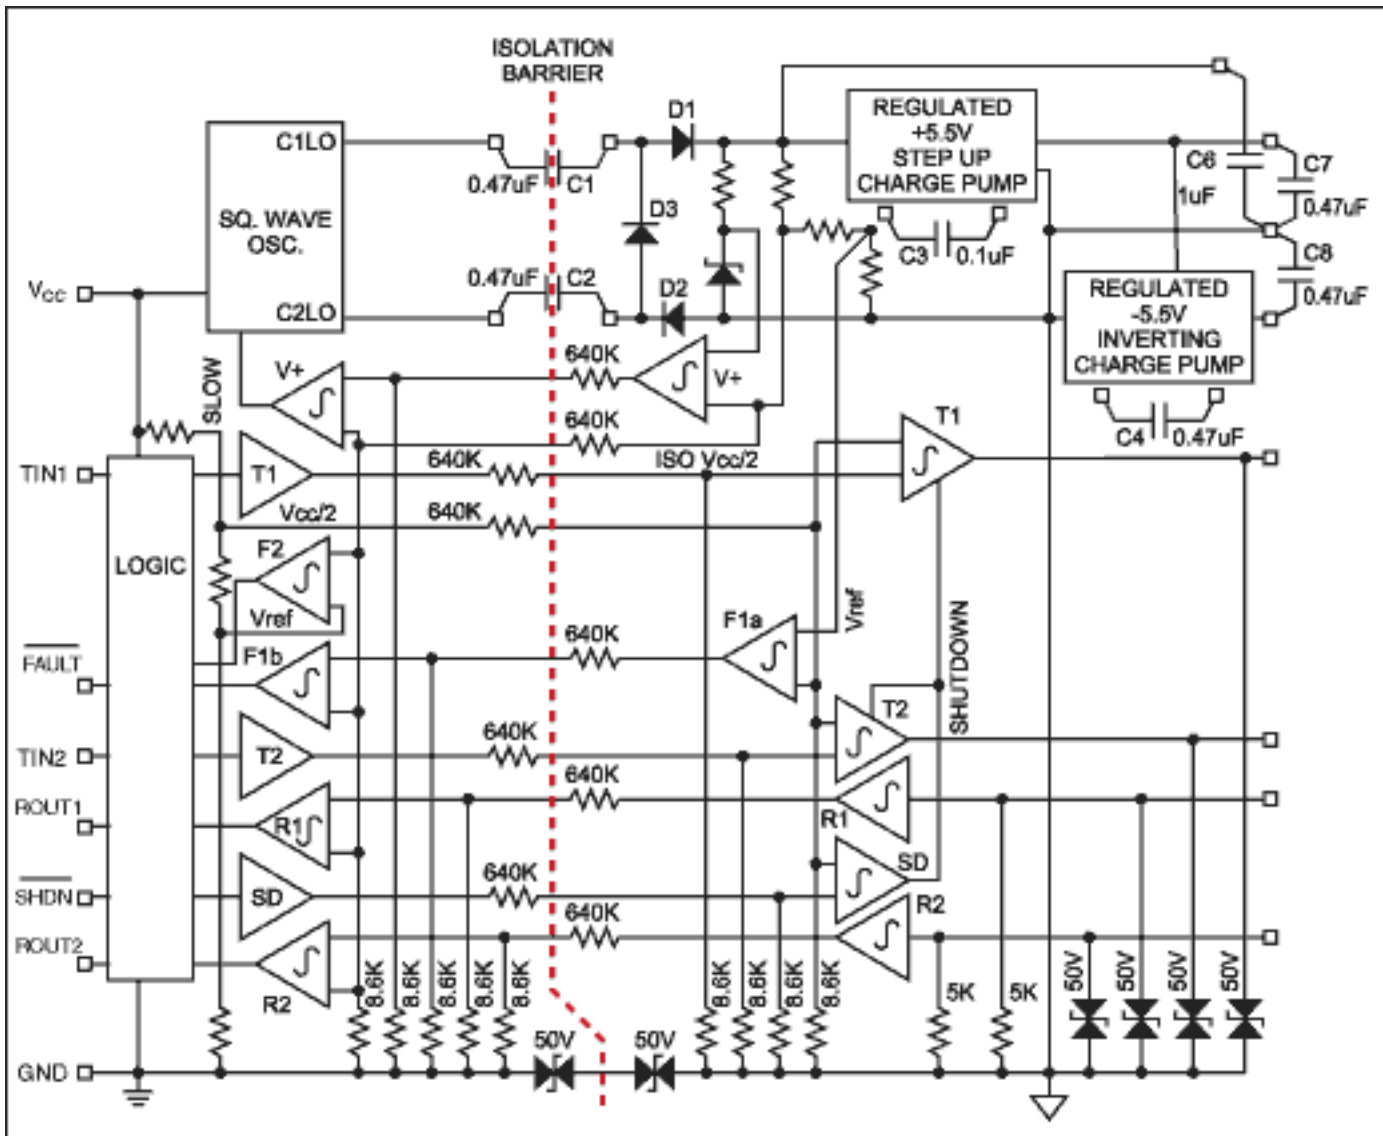
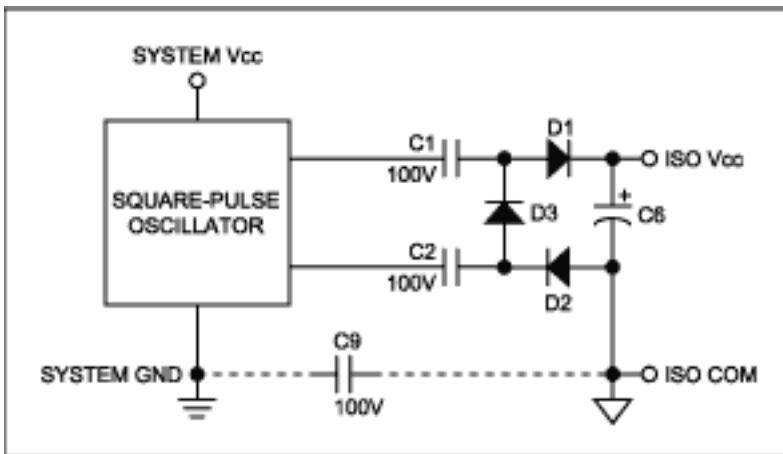
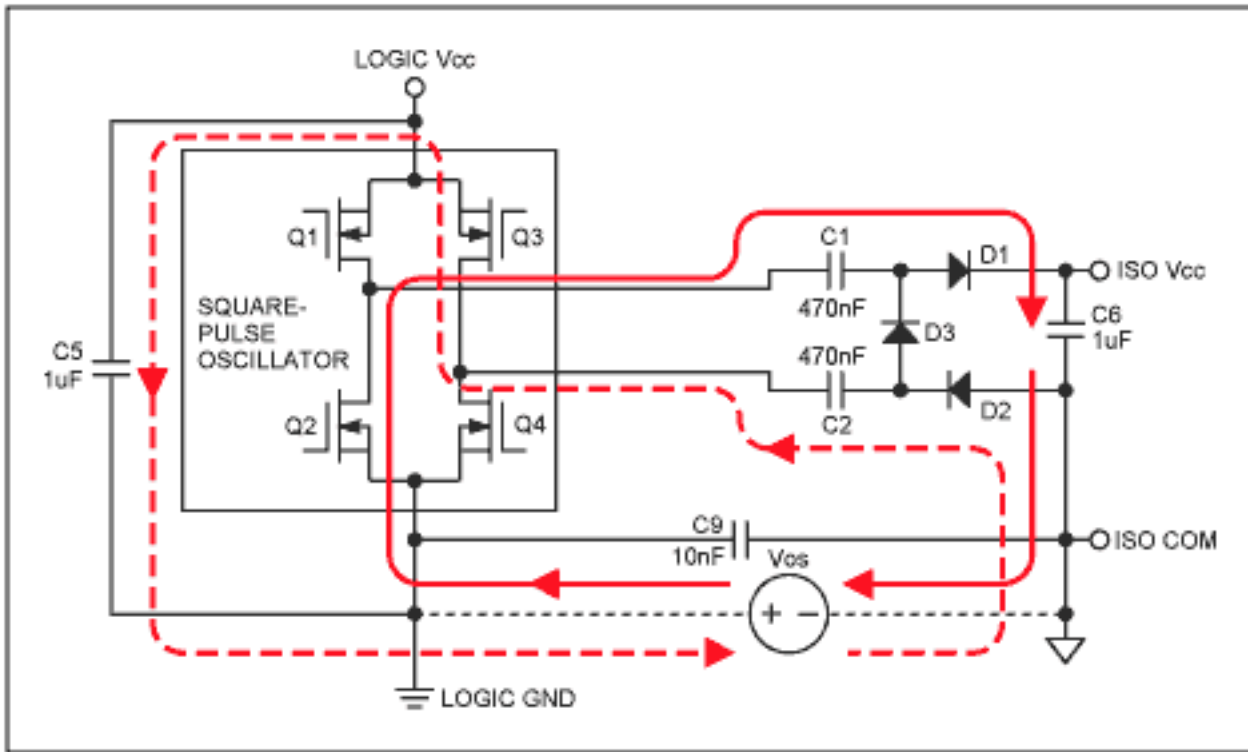

Figure 1. MAX3250 functional block diagram.
Figure 4. Capacitor-coupled isolated supply.
Figure 7. Equivalent charge transfer circuit showing possible reverse pumping paths for V_{OS} .
The MAX3250 provides a $\pm 50V$ isolated data interface while, in the same IC package, providing isolated power for the line-side transceiver circuits from a single +3 to +5.5V system power source. The detailed functional diagram in **Figure 1** allows a clear visualization of the isolation, power-transfer, and protection circuits. External filter, charge-pump, and power-transfer capacitors are utilized.
Note that there is a resistance between ISO COM and system GND (see Figure 1) due to the existence of nine sets of isolation resistors. The approximate parallel resistance of these nine attenuators is 72kΩ.
Unless a separate isolated power supply is available to operate the isolated RS-232 transceiver, power must be transmitted from the system or non-isolated side to the line or isolated-side circuits without destroying the required isolation. It is a practical matter to use capacitive voltage transfer across the isolation barrier when the planned isolation is no more than 50-100V. Higher voltages can be isolated; but the required capacitors become somewhat large at, say, 500V. Capacitive power transfer can be accomplished by differentially driving a pair of capacitors from a square-wave oscillator on the system side as indicated in **Figure 4**. The external capacitors feed three diodes and a filter capacitor on the isolated side to produce an isolated DC output. The third diode is present to allow recharging/discharging of the coupling capacitors on alternate half-cycles of the oscillator signal. The coupling-capacitor voltage ratings are selected to be greater than the required line-side isolation or offset voltage.
The isolated-supply power-transfer system operates somewhat like the well-known charge pump. The square-wave oscillator reverses its output polarity (0 or +5V) on alternate half cycles of operation. Its output is always a square wave (50% duty cycle), but (in the MAX3250) its output resistance increases on command (via a return feedback path visible in Figure 1) when ISO V_{CC} reaches its design voltage. Thus, it operates to provide either normal or reduced power transfer to the isolated supply. As the line-side load draws down the voltage on C6, the feed-back signal will again cause the oscillator to more effectively replenish the charge on C6. The output voltage is thus under active regulation, with some ripple on the output at a ripple frequency depending upon the actual load. A Zener diode on the output side acts as a voltage reference against which a fraction of the output is compared to drive the control signal that is sent back across the isolation barrier to the oscillator. The charge pump injects noise currents into the ISO COM terminal to create a noise voltage on ISO COM whenever ISO COM is not connected to system GND. Hence, ISO COM should be bypassed to system GND with a 10nF capacitor (C9 in Figure 4). There are two additional regulating charge pumps driven by ISO V_{CC} to create regulated $\pm 5.5V$ supplies for the RS-232 drivers and receivers.
Control and Data Transfer Across the Isolation Barrier (refer to Figure 1)
1. The charge-pump isolation-voltage limit is set by the breakdown rating of capacitors C1, C2, and C9 (see Figure 4).
The maximum applied offset voltage is dependent on frequency and the value of the power coupling capacitors (C1 and C2 in Figures 1 and 4). The dependence on C1 and C2 is due to a reverse pumping action caused by high levels of ground offset voltage. This means that there are different limits to V_{OS} when the circuit is powered by 3.3V or 5V supplies because C1 and C2 must be 470nF for 3.3V supply whereas 47nF is allowed for a 5V supply.
The isolated supply of Figure 4 is redrawn in **Figure 7** to include details of the square-pulse oscillator. Reverse charging paths are shown for V_{OS} -generated currents. When the V_{OS} polarity is as shown, a current, indicated by the solid line, will flow through Q2, C1, and D1 to charge C6. When the polarity is reversed, a current, indicated by the dashed line, will flow through D2, C2, and Q3 to charge logic-bypass capacitor C5.
A feature of the MAX3250 is a fault-condition flag output indicating when the device's isolation limit has been exceeded. The operation may be understood by reviewing the block schematic of Figure 1. Comparators on each side of the isolation barrier, F1a and F2, each compare a locally-generated reference voltage with the attenuated $V_{CC}/2$ reference from the opposite side of the isolation barrier. References are chosen such that the attenuated equivalent of a 55V isolation voltage is recognized. One comparator recognizes a positive offset, and the other recognizes a negative offset. Outputs from the two comparators are logic ORed together to produce a fault signal whenever the difference between the logic common (GND) and ISO COM terminals exceeds $\pm 55V$.